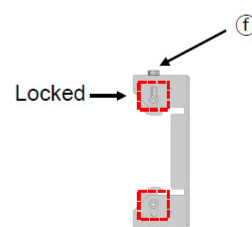

Figure 40. Rear clamp
6. Lock two pair of the rear clamp bolts. (Figure 40, f)